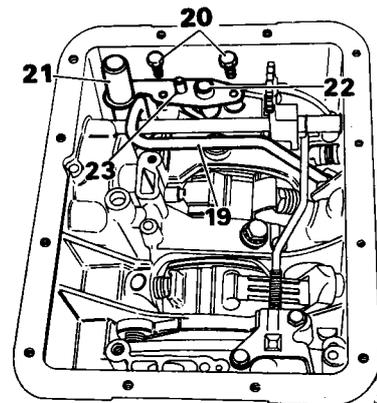

Fig. 29
19. Carefully lever the oil cooler tube from the transmission (Fig. 29).
20. Remove the bolts (Fig. 29) retaining oil tube retaining plate; withdraw the plate.
21. Using suitable long-nosed pliers, withdraw the pump inlet tube; remove and discard the 'O' ring (Fig. 29).
22. Withdraw the pump outlet pipe (Fig. 29).
23. Withdraw the converter feed tube (Fig. 29).